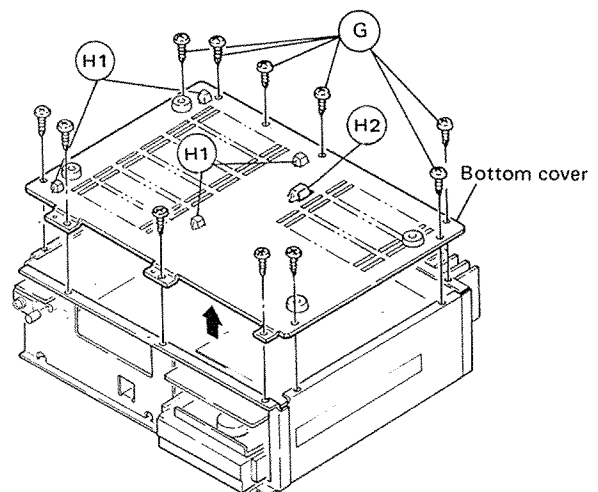

Fig. 3
- (3) Remove 11 screws (G), remove 4 wiring board supports (H1) and take out the BOTTOM COVER without removing the support (H2). (Fig. 3)